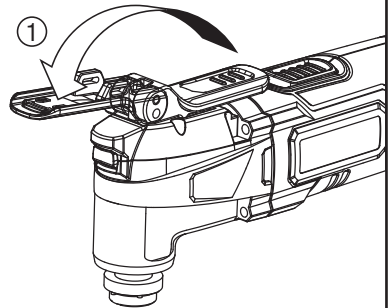

Fig. A1
1. MOUNTING THE ACCESSORIES (SEE FIG. A1-A3)